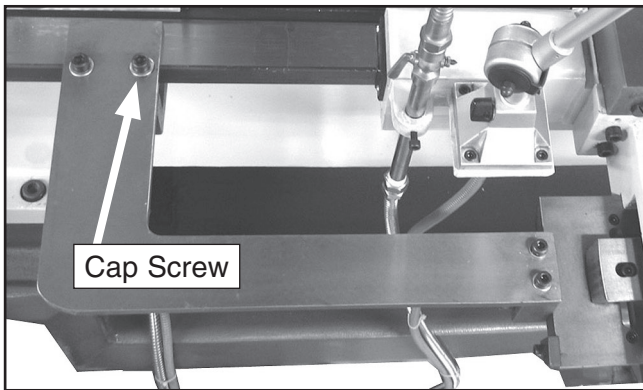

Figure 21. Deadman location.
When the deadman cap screws (**Figure 21**) are tightened, the deadman clamps against the bedway and the taper attachment engages. When the cap screws are loose, the taper attachment is disengaged and normal lathe operations can occur.
3. Using an 8mm hex wrench, tighten both deadman cap screws so the deadman clamps against the lathe bedway (**Figure 21**).